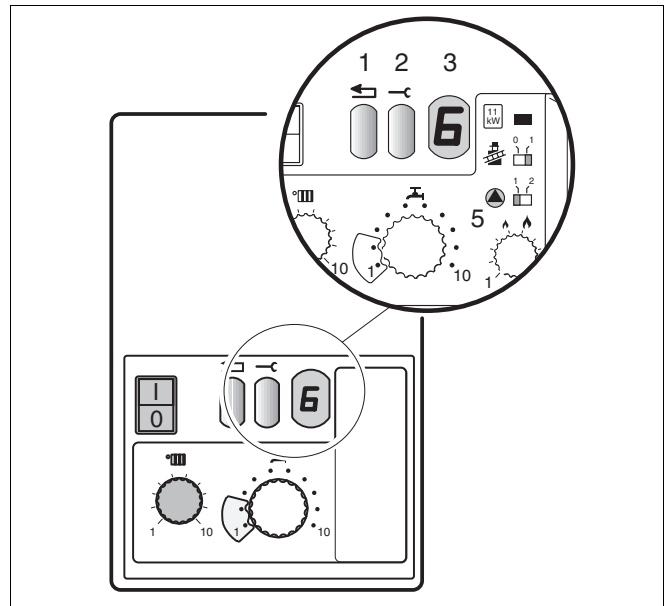

Fig. 3 Operational and fault codes
Operating conditions and possible faults are shown on the display (fig. 3, item 3). The codes consists of two characters. Press the Service button (fig. 3, item 2) to display the second character.